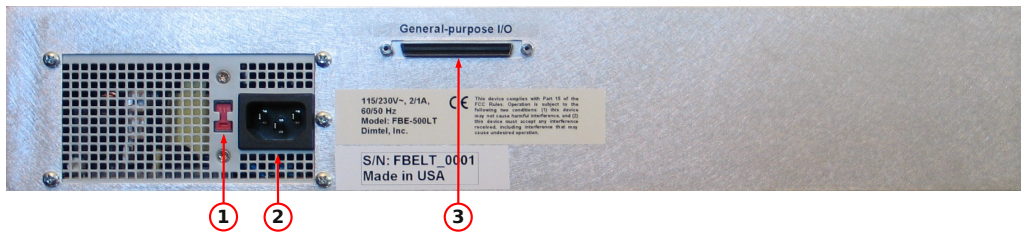

Figure 3: Rear panel features
WARNING: Before connecting power to the unit make sure the voltage selection switch (Fig. 3, item 1) is in the correct position (115 or 230 V).
1. Configure voltage selection switch (Fig. 3, item 1). Mains supply requirements for the FBE-500LT are listed in Table 4;
9. Using the supplied 68-pin **GPIO** cable connect the iGp/iGp12 interface (Fig. 3, item 3) to the **GPIO** connector on the iGp/iGp12;